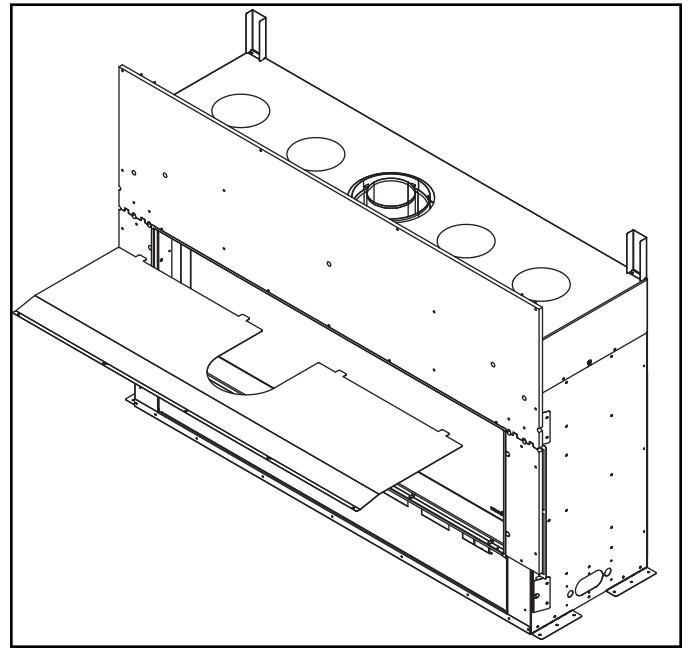
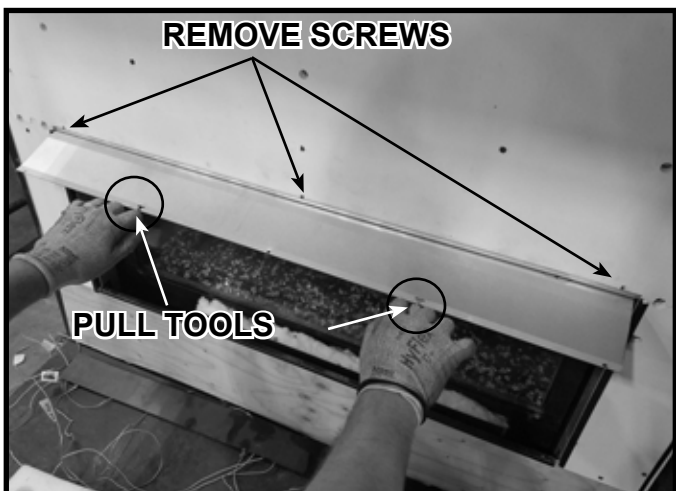

Figure 14 Remove Heat Shield
Figure 13 Use Pull Tools to Remove Heat Shield
4. Remove the screws from the heat shield as shown in Figure 13. Quantity and location of screws will vary between models.
7. Carefully pull the heat shield out of the appliance as shown in Figure 13 and Figure 14. Discard heat shield. Repeat procedure on other side if application is on a see-through appliance.